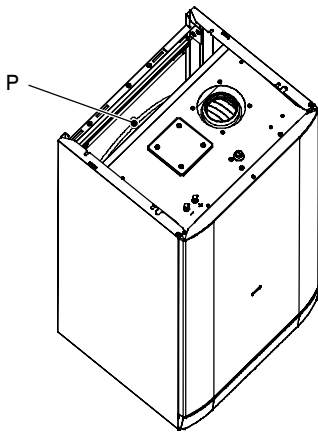

Fig. 65
- 2 Remove the protective cap *P* (Fig. 65) from the valve on the top of the expansion vessel and connect a suitable air pressure gauge.